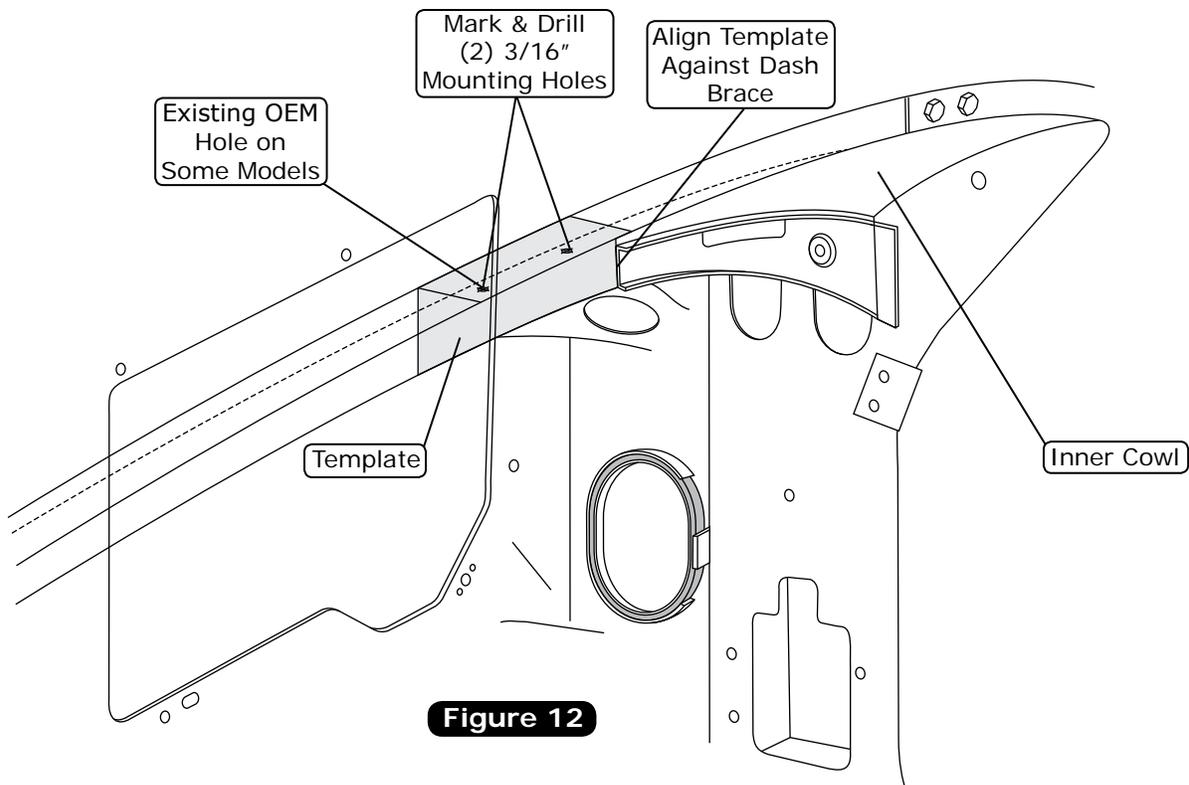

Figure 12
1. Cut out the template provided on Page 29. Place the template under the dash on the inner cowl as shown in Figure 12, below.
2. Once the template is aligned correctly against the dash brace, tape the template into place. Mark the mounting hole locations on the inner cowl. Once the holes are marked in the correct location, drill (2) 3/16" holes in the inner cowl for the front evaporator mounting bracket (See Figure 12, below). **NOTE: Some models may have an OEM hole in the inner cowl as shown in Figure 12, below.**